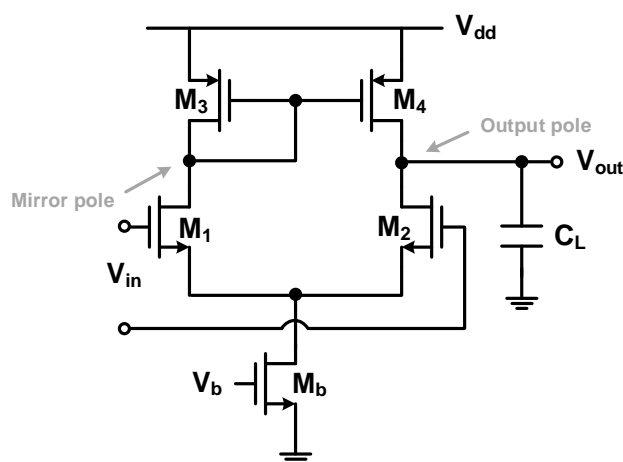

Fig.1.
1. Design a differential to single-ended amplifier with $V_{dd} = 1.5V$, $C_L = 0.5pF$ as shown in Fig. 1. (45%)